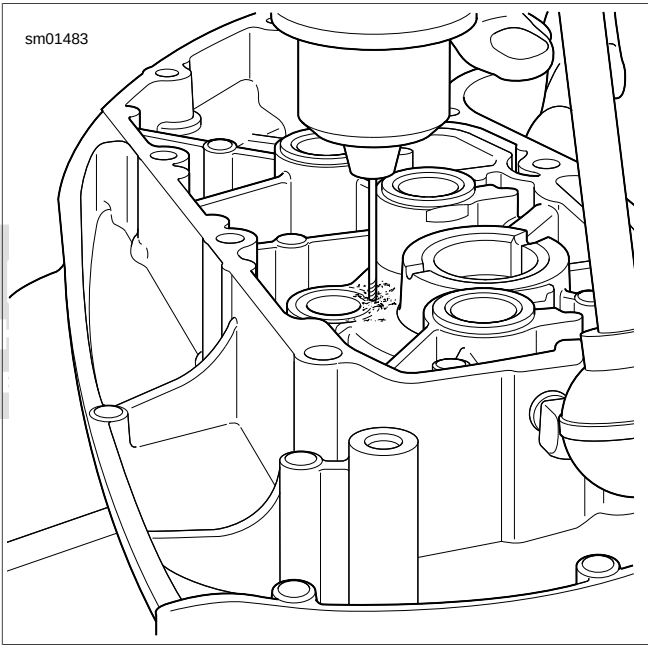

Figure 3-118. Drilling Pinion Bushing Dowel Pin Hole in Gearcase Cover
2. See Figure 3-118. The replacement bushing must be secured from rotation by installation of a dowel pin. Drill a No. 31 hole, 0.281 in (7.14 mm) deep, at top side of boss (side toward top of gearcase cover). Center drill bit so hole is drilled half in bushing and half in cover.